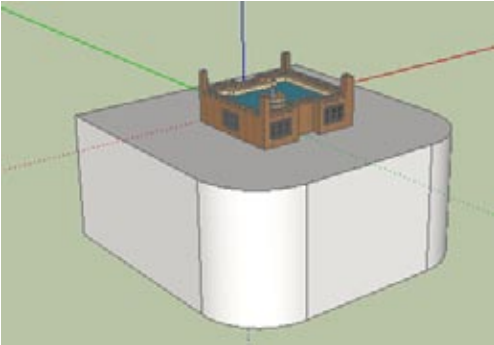

Figure 13-38
8. Hide the terrain, and build a huge support to hold up the castle (Figure 13-38).